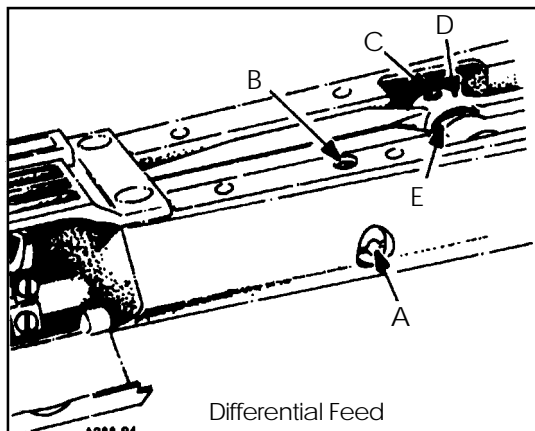
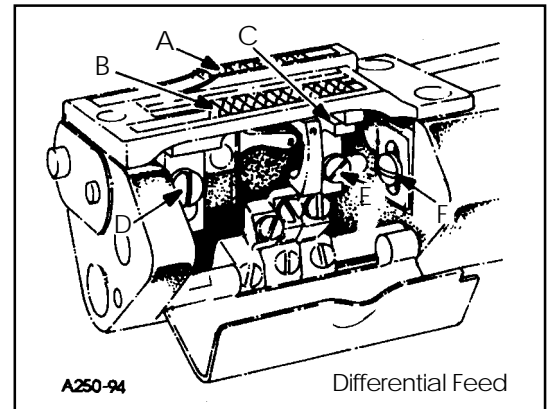

FIG. 10A
FIG. 11A
Before assembling the main and differential feed dogs, set the feed bar eccentric pin (A, Fig. 10A) located in the left side near center of cylinder, so that the slot in the head is in a horizontal position for the 35800BWDN, BLW style machines and turned counter clockwise to an approximate 45° for the 35800BWW style of machine. The pin can be used to slightly tilt both feed dogs if necessary. The feed bar pin is retained in position by set screw (B). Assemble differential feed dog (A, Fig. 11A), main feed dog (B) and throat plate. Both the main and differential feed dogs can be individually adjusted to height. Main feed dog (B) at its highest position, should be set to project above the throat plate, the depth of its teeth. If adjustment is necessary loosen screw (D) and move feed dog (B) up or down to attain correct setting. Feed dog support (C) should support front of feed dog.
NOTE: If eccentric pin (A, Fig. 10A) is used to tilt the feed dogs, make sure that the looper does not interfere with the rear needle guard and that the needle guard does not pinch the needle loops on the back side of the needles.
If adjustment is necessary loosen screw (E, Fig. 11A) in feed dog support (C) and move as required. Retighten screw (E). The differential feed dog (A) may then be leveled with main feed dog (B). If adjustment is necessary loosen screw (F) and move feed dog up or down as required. Retighten screw (F).
**NOTE:** Should the main feed dog require repositioning due to contact with the throat plate in its forward or rearward travel, loosen set screw (C, Fig. 10A) in main feed bar driving link (D), rotate main feed bar eccentric driving stud (E) as required. Driving stud (E) has a thin hexagon head with cutouts on two of the flats allowing movement by tapping with a sharp pointed tool, when wrench 21388AZ is not available. Whenever the main feed bar eccentric driving stud position has been changed, recheck rear needle guard setting, adjustment may be required. Retighten set screw (C). Position main feed dog support (C, Fig. 11A) flush against bottom of main feed dog (B), tighten support screw (E) securely.